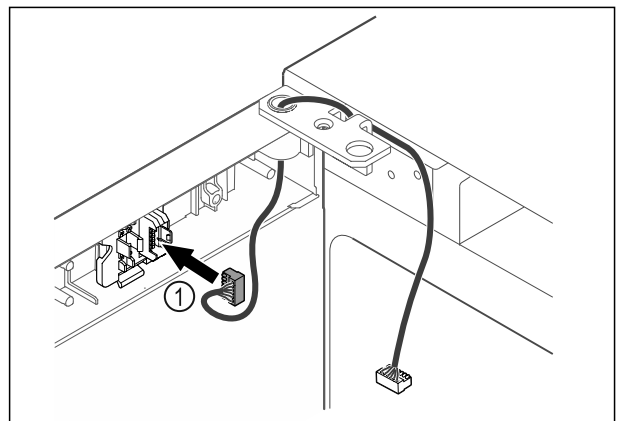

Fig. 45
- ▶ Put the plug Fig. 45 (1) in the plug holder.